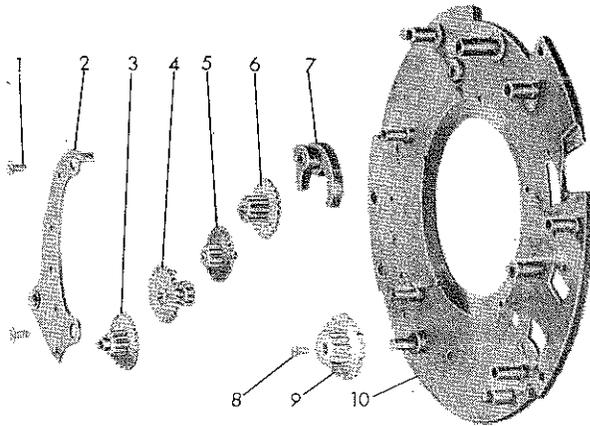

Figure 44—Delayed Action Gear Train, Exploded
(3) DELAYED ACTION GEAR TRAIN. (See figure 44.)
(6) **DELAYED ACTION TRIGGER LATCH.**—If the delayed action winding lever (12, figure 33) does not hold after it has been set, the lug on the delayed action trigger latch (13, figure 34) which extends down into the case is slipping past the pivot on the pallet with pivot (7, figure 44). Reshape the lug on the trigger latch until it comes in contact with the pivot and holds the pallet so that the delayed action gears cannot move.